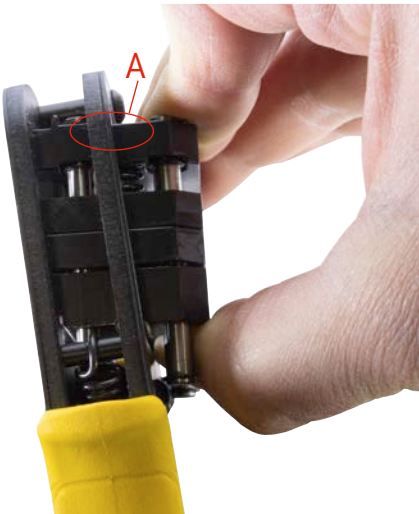

Fig. 11:
- Then tilt the insert as shown in Fig. 11 and remove it from the frame.